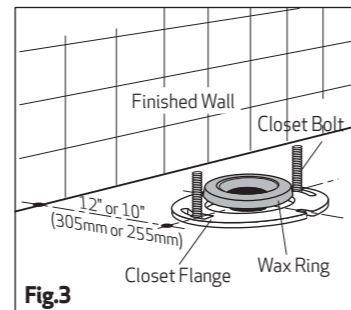
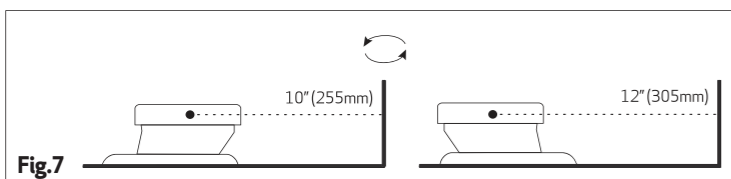

Fig.3
Fig.7
2. Position wax seal and offset adaptor onto closet bolts as detailed in Fig. 3 and 4, ensuring that the offset adaptor is positioned for a 10" (255mm) or 12" (305mm) rough in as shown in Fig.7.